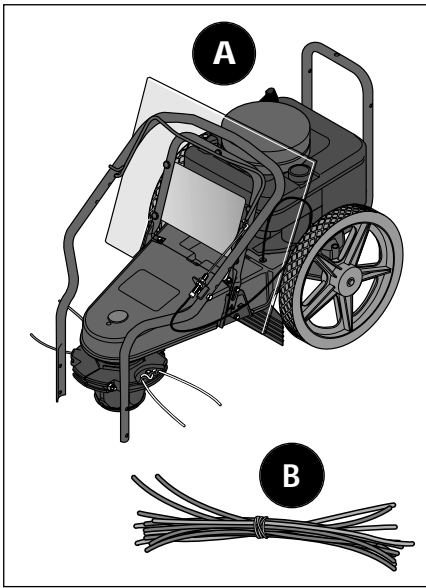

Figure 2-1
- Machine Assembly (A, Figure 2-1)
- Extra Trimmer Line (B, Figure 2-1): six pieces of heavy-duty .130" dia. line and six pieces of extra heavy-duty .155" dia. line.
- (3) Plastic cable ties